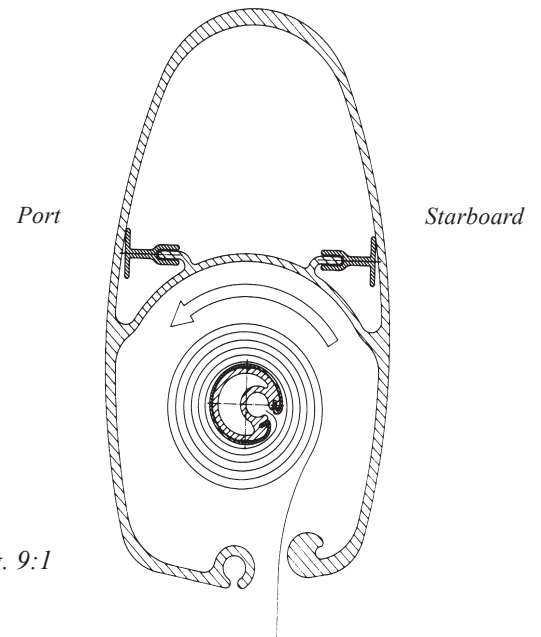

Fig. 9:1
8. Furl the sail until the clew is exposed. The luff extrusion is asymmetrical to facilitate rolling in one direction, and the sail should always be rolled onto the starboard side of the luff extrusion. The Reefing Winch should be turned clockwise. See Fig. 9:1.
1. Check that the sail is correctly furling on the STARBOARD SIDE of the luff extrusion. (See Fig. 9:1).